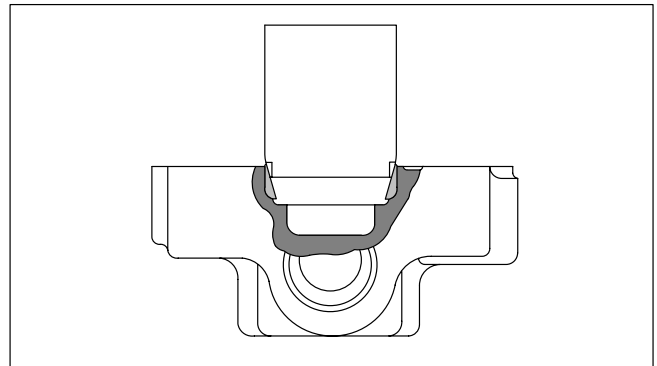

Figure 21. Installation of Bearing Race into Valve Block.
1. If bearing (32) was defective and bearing race (63 for the PVE19/21) has been removed, a new bearing race must be installed into the valve block. Refer to Figure 21 and press a new bearing race in place with an arbor press. The bearing race must bottom against the shoulder of valve block at completion of press.